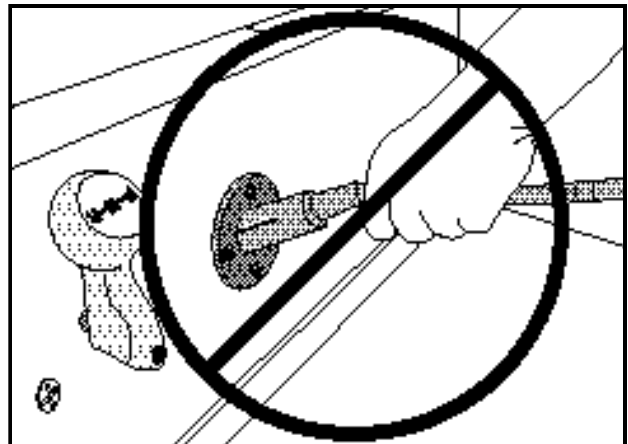

Figure 24
- DO NOT PULL ON THE CORD (**SEE FIGURE 24**). DO NOT TWIST, ROCK OR BEND THE PLUG. TO DISCONNECT THE CHARGER PLUG FROM THE VEHICLE RECEPTACLE, GRASP THE PLUG BY THE HANDLE AND PULL THE PLUG STRAIGHT OUT OF THE RECEPTACLE.
- FAILURE TO FOLLOW THESE INSTRUCTIONS COULD RESULT IN DAMAGE TO THE CHARGER CORD, THE PLUG, AND (OR) THE VEHICLE'S RECEPTACLE.